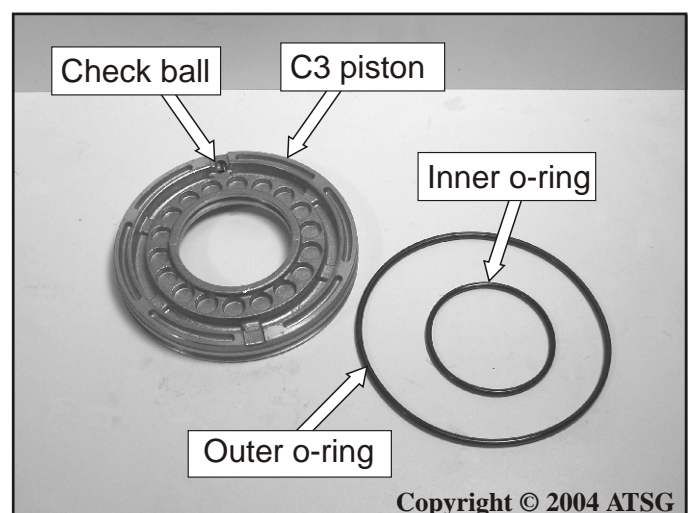

Figure 142
89. Inspect the check ball assembly for debris and replace the inner and outer o-rings on the C3 piston. See Figure 142.